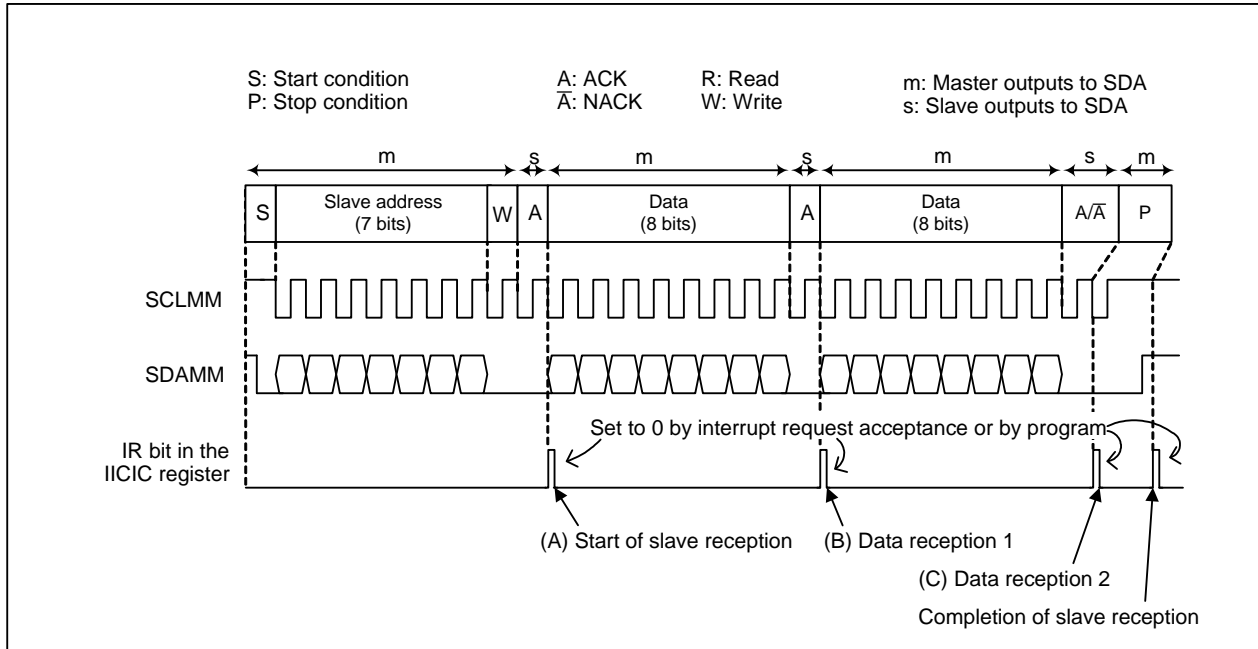

Figure 25.19 Example of Slave Reception
- (1) Read the received data from the S00 register.
- (2) Write C0h to the S10 register (stop condition standby state).
- (3) Write dummy data to the S00 register (stop condition generated).
The slave reception is described in this section. The initial settings described in 25.3.10.1 "Initial Settings" are assumed to be completed. Figure 25.19 shows the example of slave reception. The following programs (A) to (C) are executed at (A) to (C) in Figure 25.19, respectively.